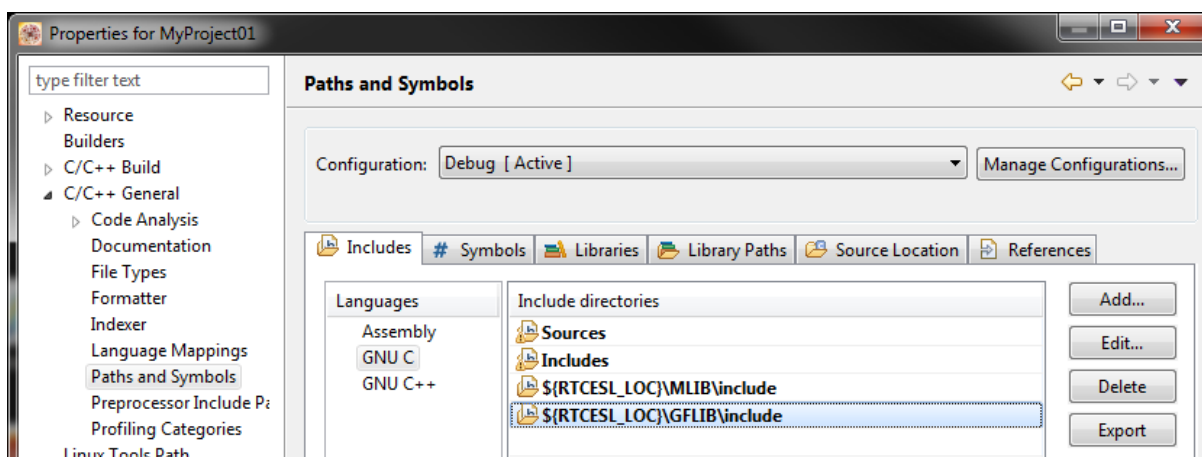

Figure 1-15. Compiler setting
15. In the right-hand dialog, select the Includes tab, and click GNU C in the Languages list. See Figure 1-15.
20. Click OK, and you will see the paths added in the list. See Figure 1-15. Click OK.